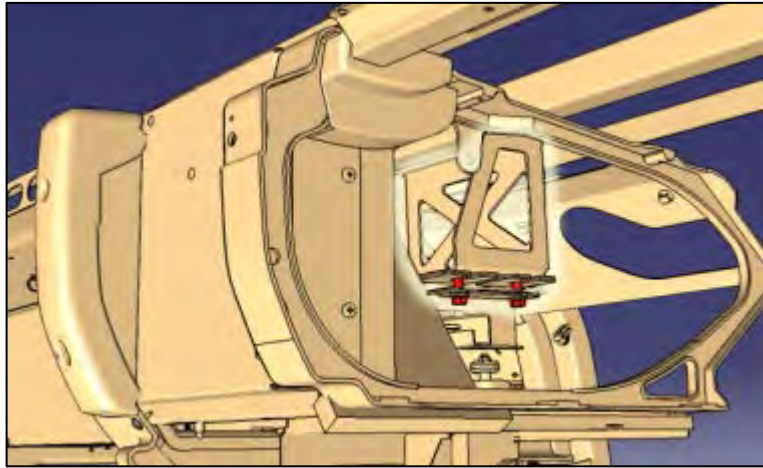

Figure 51
73. Locate the rail end and frame support. (Figure 51)